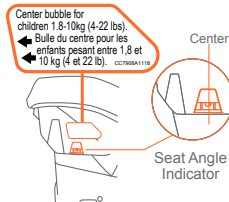

Fig. 44-2
5. Check that car seat is in the correct recline position based on the weight of your child. See (Fig. 44-2) and Section 7.9.7 **Adjusting Seat Recline Angle**.